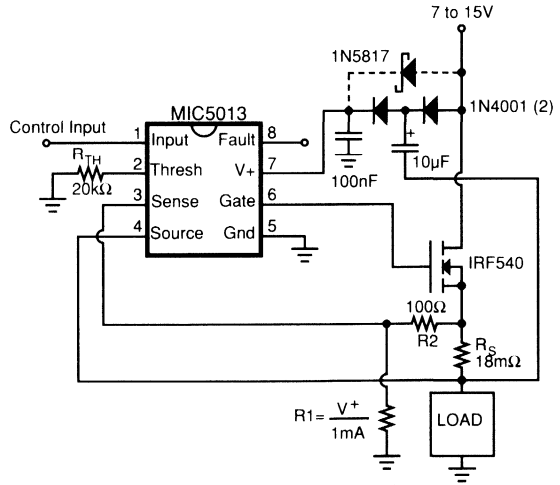

Figure 6. Bootstrapped High-Side Driver
**Bootstrapped High-Side Driver** (Figure 6). The speed of a high-side driver can be increased to better than 10μs by bootstrapping the supply off of the MOSFET source. This topology can be used where the load is pulse-width modu-
The top-side driver is based on the bootstrapped circuit of Figure 6, and cannot be switched on indefinitely. The bootstrap capacitor (1µF) relies on being pulled to ground by the bottom-side output to recharge. This limits the maximum duty cycle to slightly less than 100%.